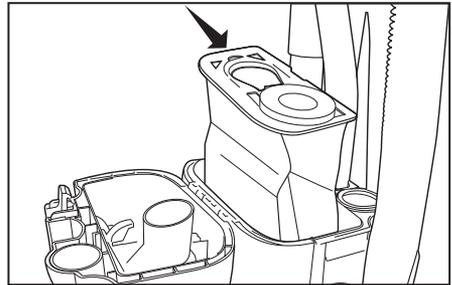

Fig. 3
- Remove the used vacuum bag by lifting up on the collar ring and pulling straight up (Fig. 3). Discard the used bag.